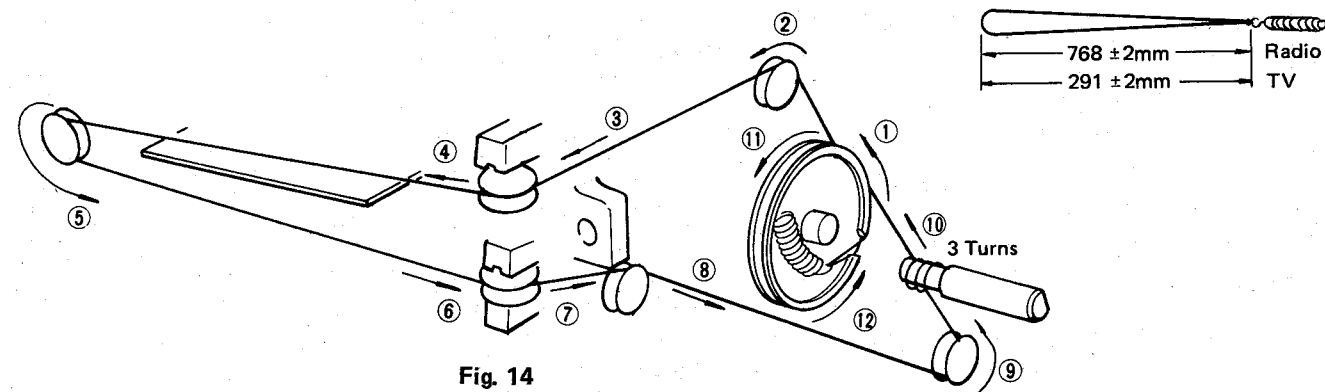

Fig. 14
3. Arrows (① - ⑫) indicate correct order and indication dial threading as shown in Fig. 14.